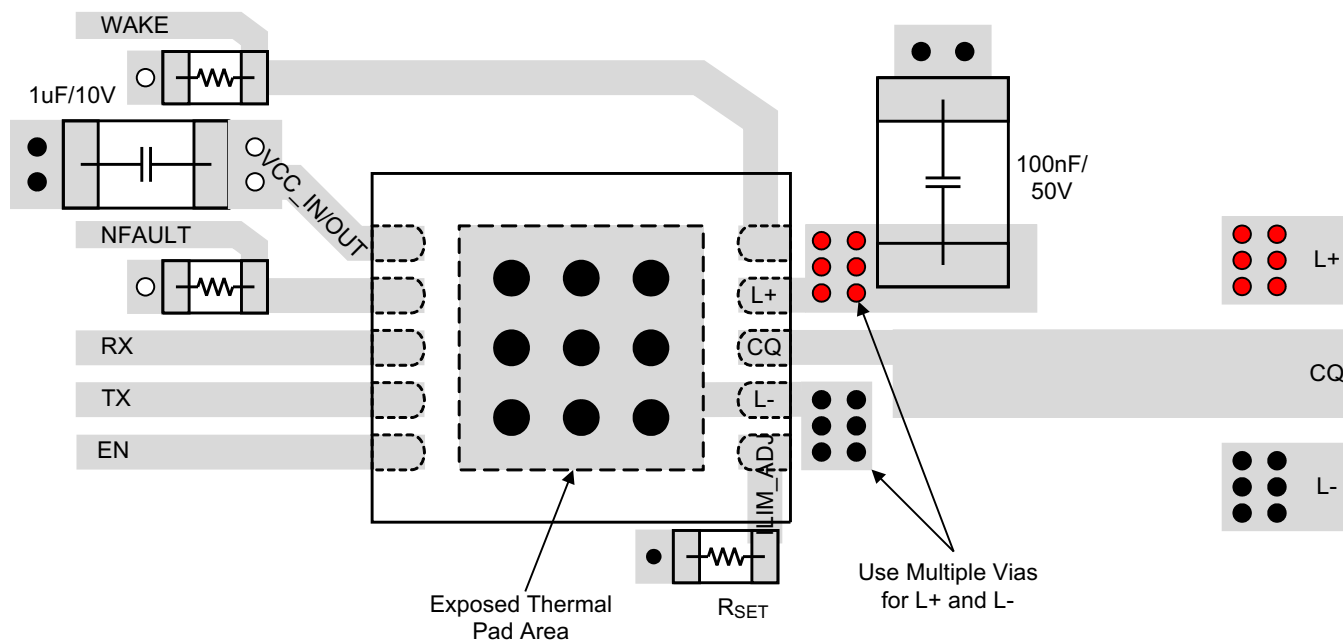

Figure 31. Layout Example
- The optimum placement of the capacitor is closest to the transceiver's L+ and L- terminals to reduce supply drops during large supply current loads. See Figure 31 for a PCB layout example.